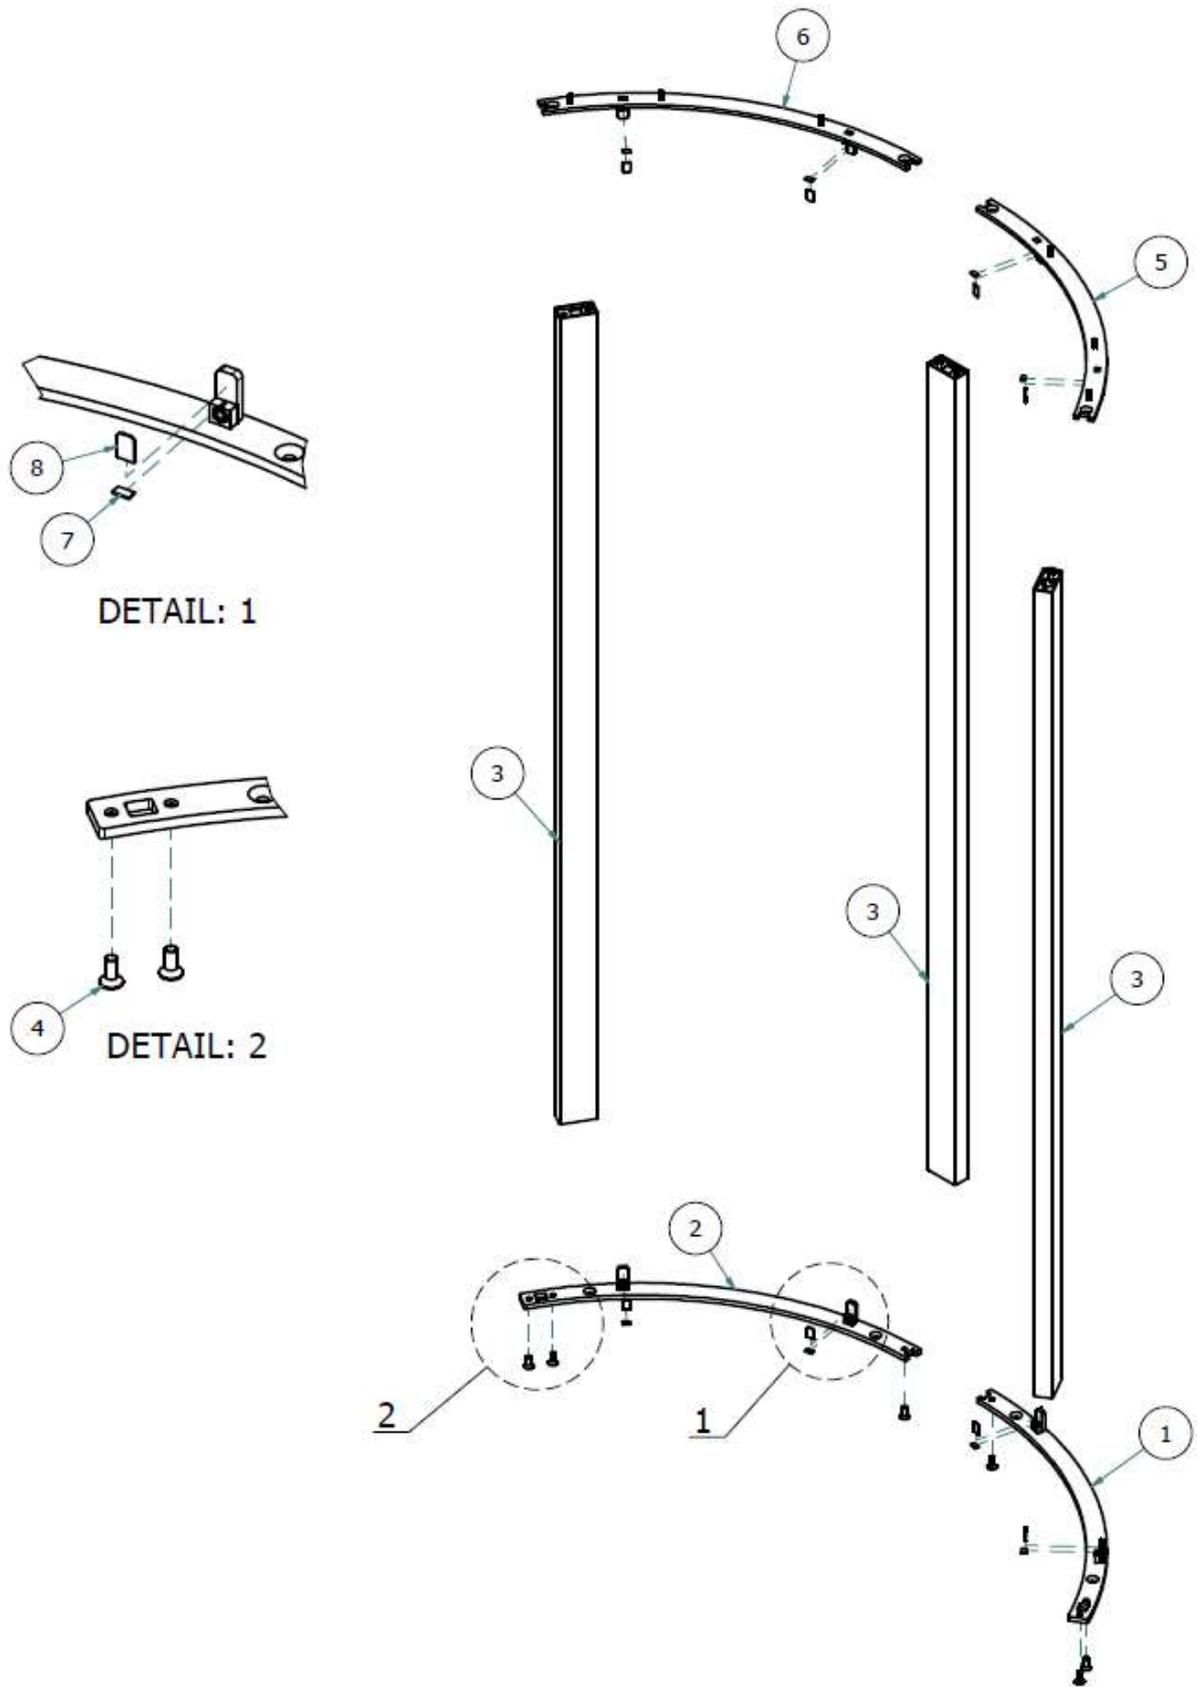

Figure 7: STEP 1 - Side half assembly
- 5.2. *Figure 7* shows the assembly of the frame parts and the screws.